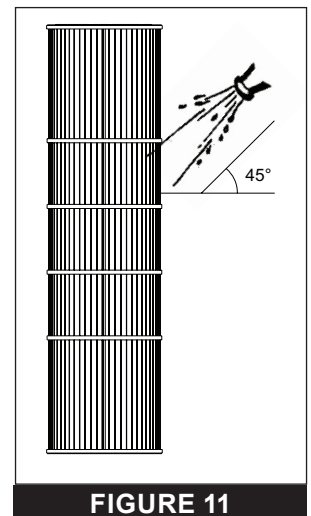

FIGURE 11
5. Using a garden hose with a straight flow nozzle, hold the nozzle at a 45-degree angle to the cartridge and wash the entire cartridge from top to bottom. Refer to **FIGURE 11**.